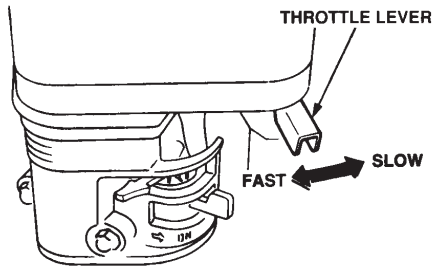

Figure 12. Throttle Lever (SLOW Position)
1. Move the throttle lever quickly to the **SLOW** position (Figure 12).
1. Place the **throttle lever** (Figure 12) in **SLOW** position, and listen for the engine speed to decrease.